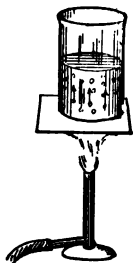

FIG. 105. — Bubbles of air in water.
**102. Absorption of gases in liquids.** If we slowly heat a beaker containing cold water, small bubbles of air will be seen to collect in great numbers upon the walls (Fig. 105) and to rise through the liquid to the surface. It might seem at first that these are bubbles of steam, but they must be bubbles of air, first because they are formed at a temperature below the boiling point of water, and second because they do not condense as they come to the cooler layers of water above.